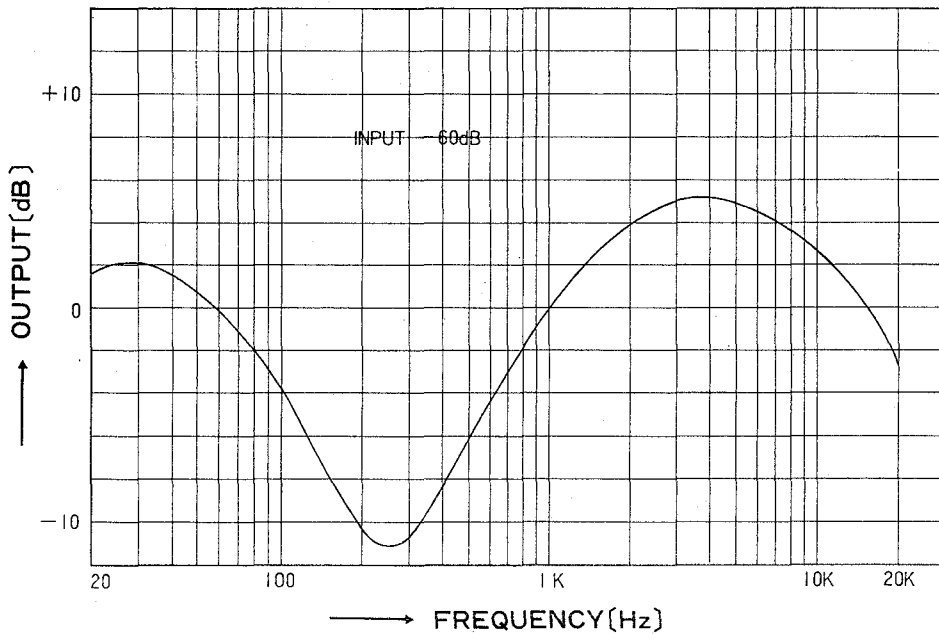

Fig. 1
- Regarding the frequency response of the set in the condition specified in Tables 1&2, please refer to Fig.1 when the output level for a 1kHz input is set as the reference level(0dB). The tolerance shall be within $\pm 3dB$, respectively.